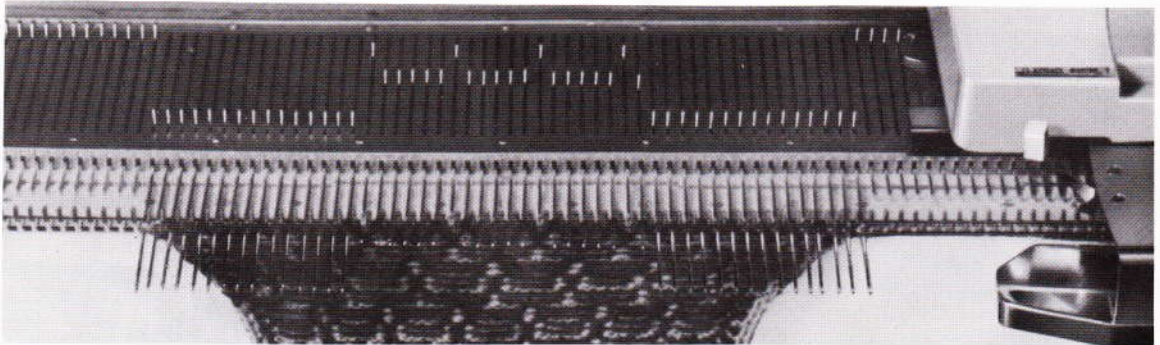

Fig. 183
4. With flat needle selection bar bring **the 15 needles at each end** to F position (fig. 183).